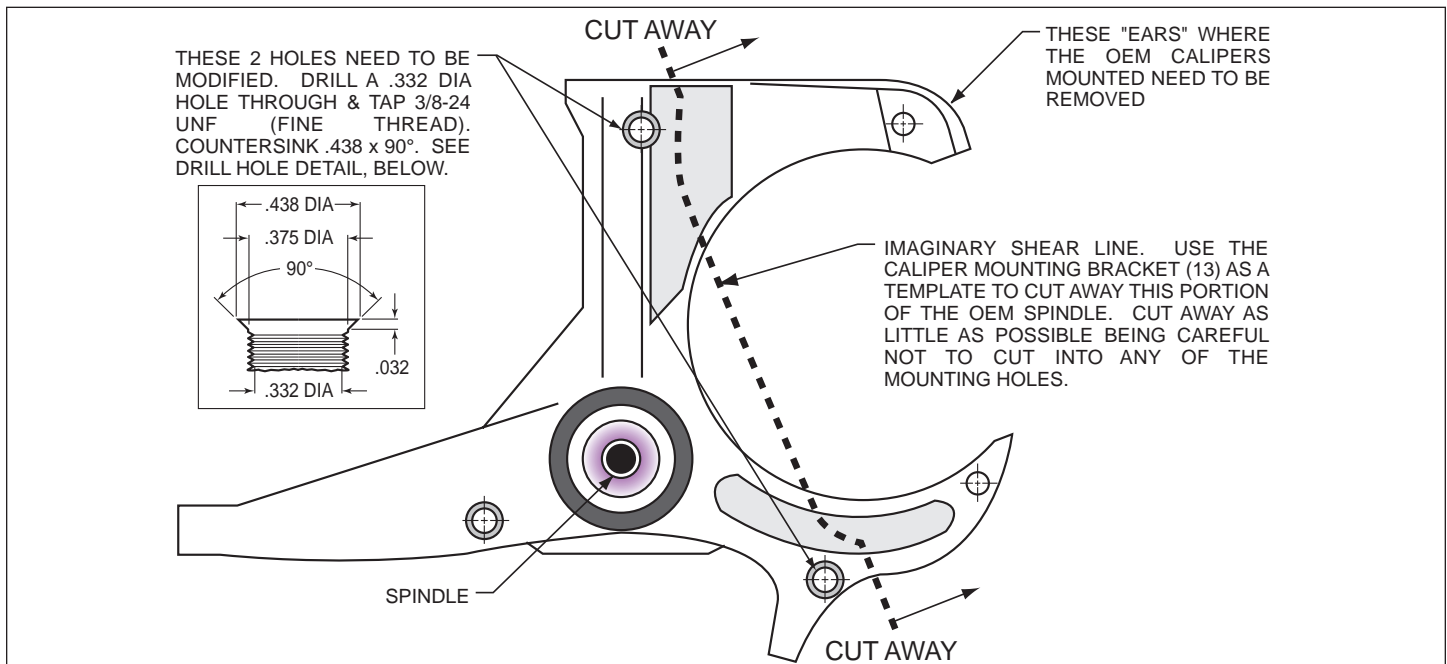

Figure 1. Steering Arm / Spindle Modifications
These modifications should be performed by a qualified machinist. Refer to Figure 1 on the following page as necessary (numbers in parenthesis refer to the parts list on page three). Only one view of the steering arm/spindle is shown, but the modifications need to be performed on both steering arm/spindles.
The two stock holes that will be used to mount the caliper mounting bracket (1) need to be modified (figure 1). Drill a .332 diameter hole through both holes, then tap 3/8-24 UNF (fine thread). Countersink the holes to .438 x 90°. The “ears” that protrude to form a “C” shape need to be removed to facilitate the installation of the Wilwood caliper (19). Using the caliper mounting bracket (13) as a template, mark two cut marks on the steering arm. Remove as little as necessary from the “C” shape, being careful not to cut away any of the mounting holes required to bolt on the caliper mounting bracket (1).